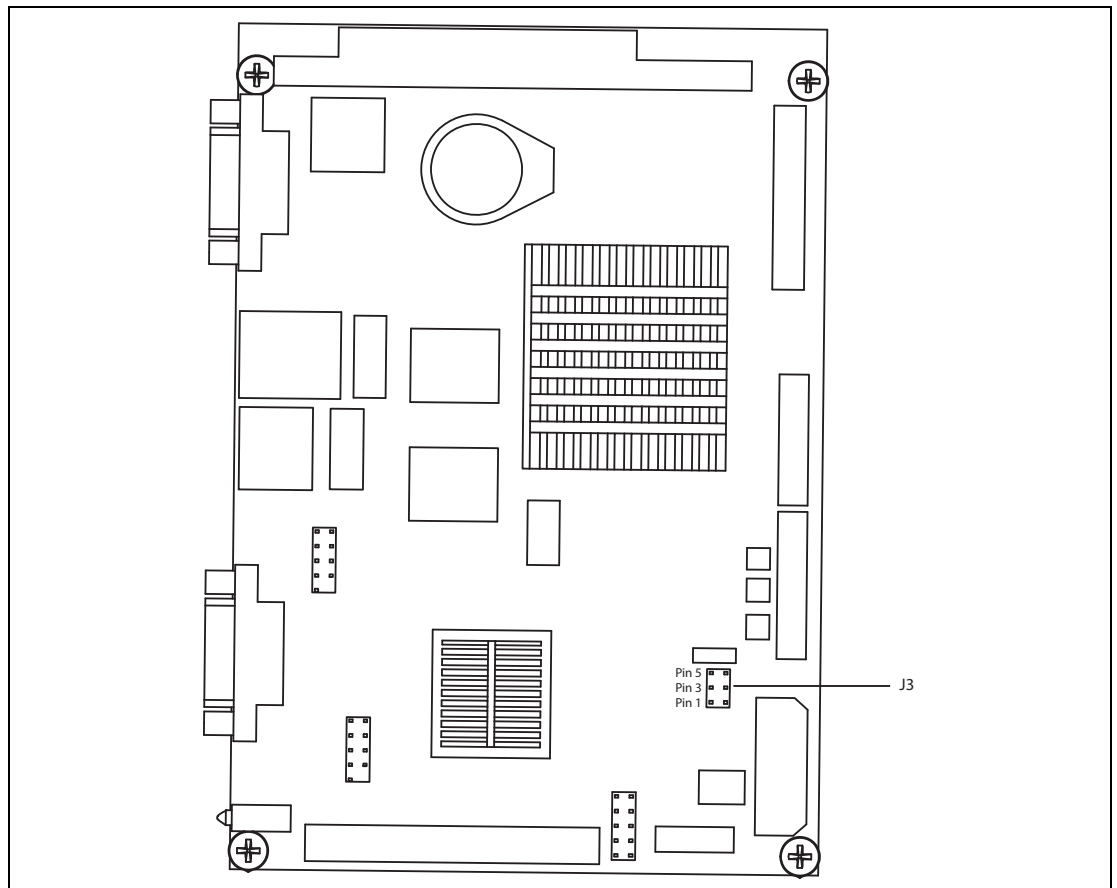

Figure 4-1: J3 on the Single Board Computer
**Note** Com 2 is a dual protocol port that can be an RS-232 or an RS-485/422 communications protocol set by jumper J3 on the single board computer (see Figure 4-1 above) as shown in Table 4-1.